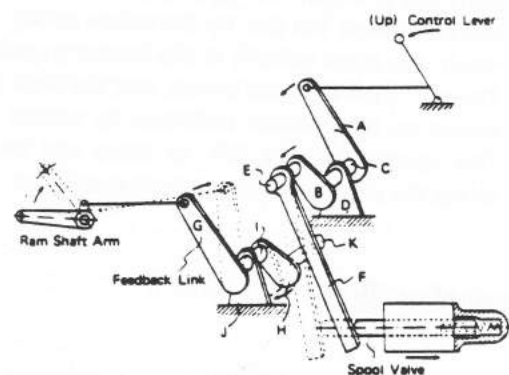

Fig. 7 Link System
In this hydraulic system, a feed back link system is provided in order to feed back the movement of the ram shaft arm and place the control lever in a desired position so that the implement will be properly positioned. That is, the spool valve is automatically pushed back to the neutral position by means of the feed back link. This mechanism is shown in Figs. 7 and 8.
1. Construction (Refer to Fig. 7.)